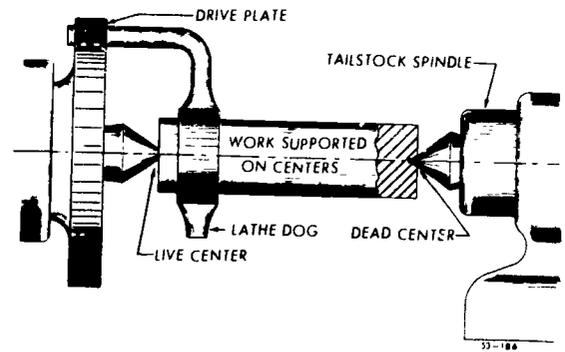

Figure 51. Work mounted between centers.
3-29. **Lathe Centers.** Turning work held between centers is a common lathe operation. Figure 51 shows a typical setup for machining work between centers. The chief advantage of machining work that is held in this manner is that you can remove the work from the lathe and replace it later for subsequent machining operations without disturbing the trueness of the turned surface in relation to the center holes. The tailstock center, which does not rotate, is called the *dead center*. The headstock center is called the *live center*.
a. *Male centers* have a conical point with a 60° included angle. The male center is the most common type. Figure 51 shows work mounted on male centers.